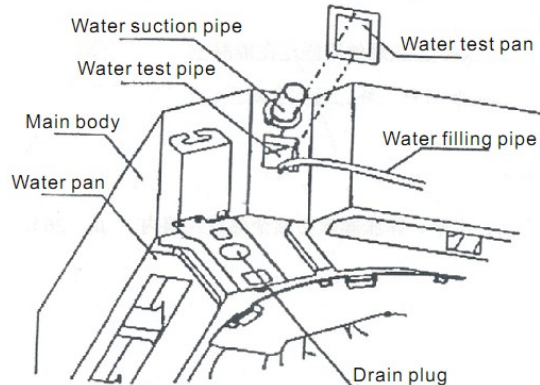

Fig 17
(1) Check whether the drainpipe is smooth and joints are all sealed well before test;
(2) As for the new room, please do the drain test first, and then lay the ceiling
- Fill 2000 ml water into the water pan with filling pipe at the water testing port (Refer to Fig 17);
(3) The drain plug at the bottom of the main body is used for emptying the water of the water pan in repairing of problems. When the unit is running , put the plug in position to avoid of water leakage.